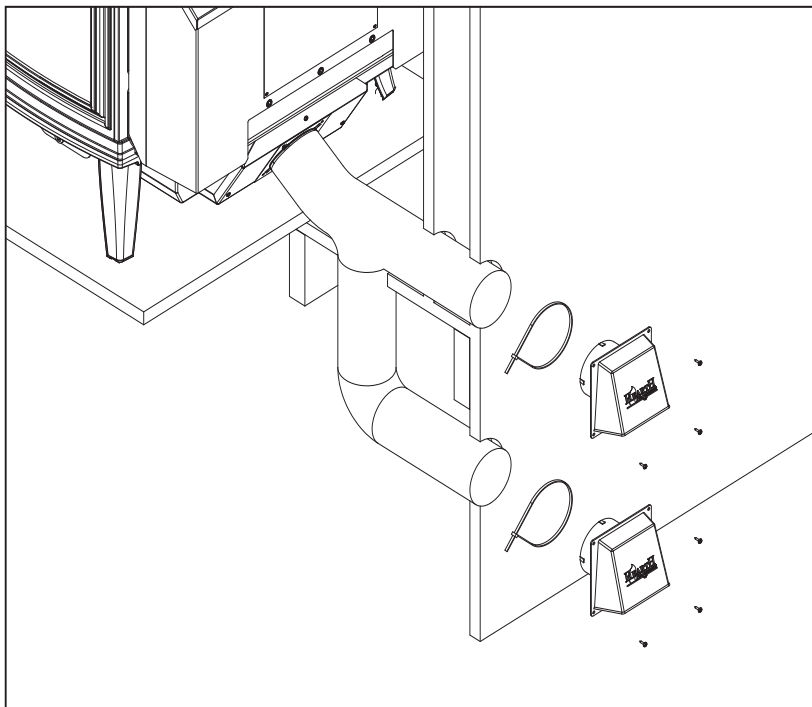

Figure 15.1 - Floor & Rear Installation
2. Using a #2 Phillips screw driver attach the flex adapter to the stove using 4 screws. **Figure 15.1**